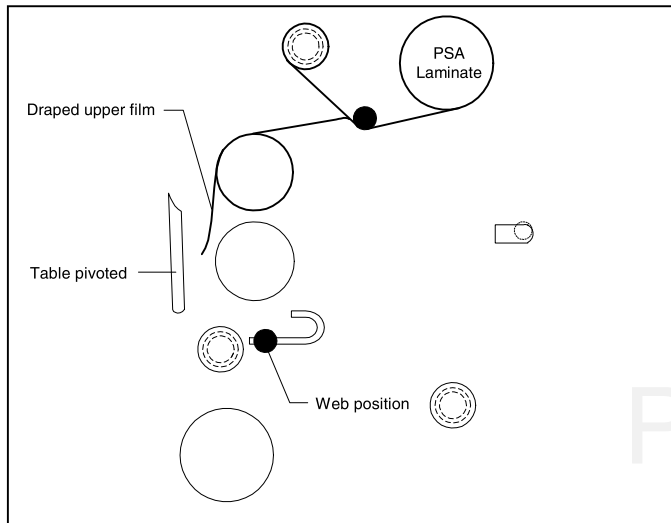

Fig. 21
5. Make two full wraps around the rewind tube, then carefully score the laminate without cutting the release liner. Pull the laminate down allowing it to drape over the upper main roller (Figure 21).